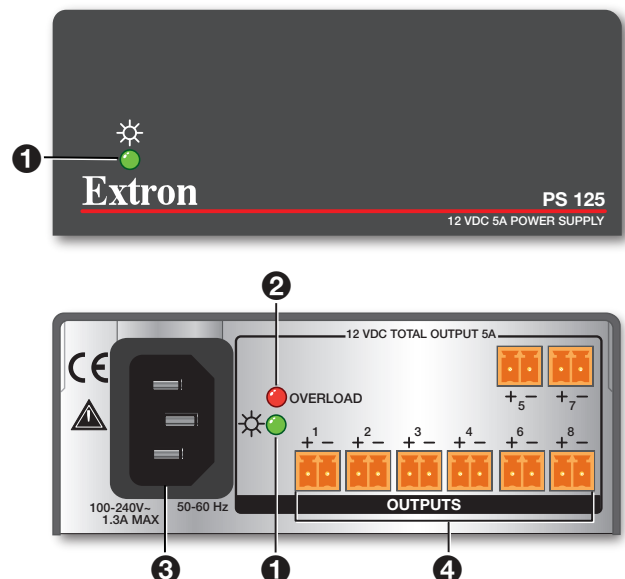

Figure 1. PS 125 Front and Rear Panels
- 1 **Power Status LEDs** — (see figure 1 on the previous page) These front and rear panel LEDs indicate the PS 125 status by lighting **Green** when power is applied and current draw is normal.